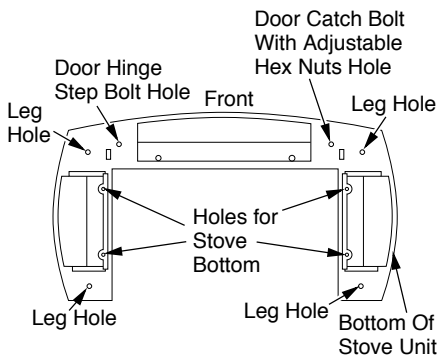
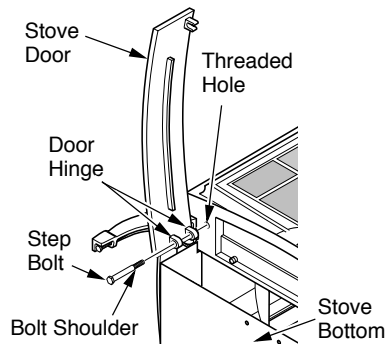
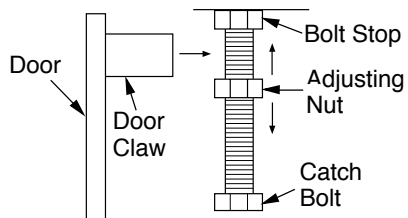

Figure 7 - Locating Threaded Holes for Stove Bottom, Legs, and Door Attachment (Appearance May Vary Depending on Model)
Figure 10 - Attaching Stove Door (Appearance May Vary Depending on Model)
Figure 11 - Catch Bolt and Door Claw Orientation
7. Fasten each leg to stove with four (4) M8 x 1.25 - 20mm bolts. Use a flat washer and lock washer with each bolt. Tighten bolts into threaded holes on stove body (see Figures 7 and 8, page 10). Use an adjustable wrench or a 12mm socket.
8. Attach stove door by inserting step bolt through door hinge pivot hole and into threaded hole in stove body (see Figure 7 and Figure 10, page 10). Use an adjustable wrench or a 12mm socket to fasten step bolt. Tighten step bolt until snug. Make sure door moves freely.
10. Install door catch bolt (M8 x 1.25-55mm with two M8 hex nuts) into threaded hole on stove body (see Figure 7). Use an adjustable wrench or a 12mm socket. The catch bolt has two hex nuts attached to it (see Figure 11). The top nut is a bolt stop and the bottom nut is for door leveling adjustment.
14. Fasten stove pan to stove with two (2) M6 x 1 - 25mm bolts. Use a flat washer and lock washer with each bolt. Tighten bolts into threaded holes on stove body (see Figures 7 and 9). Use an adjustable wrench or a 10mm socket.